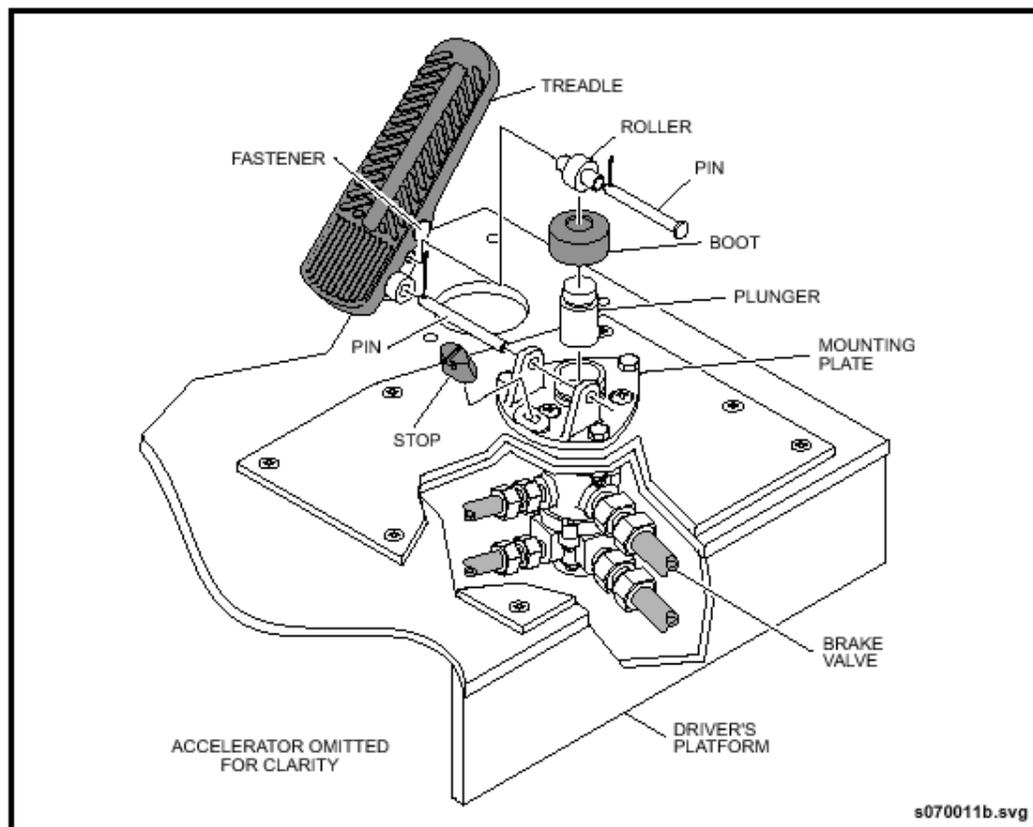

Fig. PM-28: Brake Valve Inspection
- Perform maintenance on the brake treadle assembly and brake valve every 24,000 miles (38,600 km), 900 operating hours or three months, whichever occurs first. Remove any accumulated contamination, such as dirt and gravel, from the heel of the treadle, the plunger, the plunger boot and the mounting plate. See "Fig. PM-28: Brake Valve Inspection" on page 59.